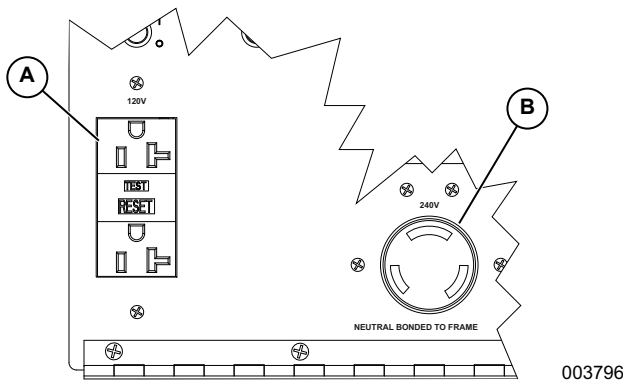

Figure 3-9. Location of Outlets
See **Figure 3-9**. The unit is equipped with two convenience outlets for powering accessories or tools from the generator. Power is supplied to the outlets any time the engine is running and the 240VAC outlet breaker is switched ON (I). Each outlet has an individual circuit breaker, located on the control box. See **Control Panel**.
See **Figure 3-9**. The circuit breakers are labeled with the corresponding voltage for the receptacle they protect.